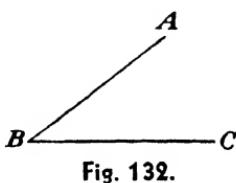

Fig. 132.
- Given $\angle ABC$ in Fig. 132.